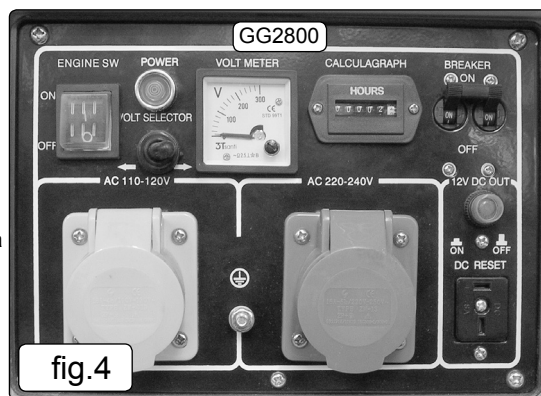

fig.4
- 4.1.1. The generating set must be earthed every time it is used, to reduce the chance of electric shock. To do this, use a 12mm2 copper wire and bolt it to the generator chassis using the earthing point seen in Figs.4, 5. At the other end, bolt it to an earthing rod of copper or brass which has been driven into the ground. This earthing connection will also dissipate static electricity generated by the electrical equipment.
- 4.5.4. Set the Engine Switch to the "ON" position, Fig.4 and 5
4.7.3. Stop engine by moving the engine switch to the “OFF” position, Figs 4 and 5.